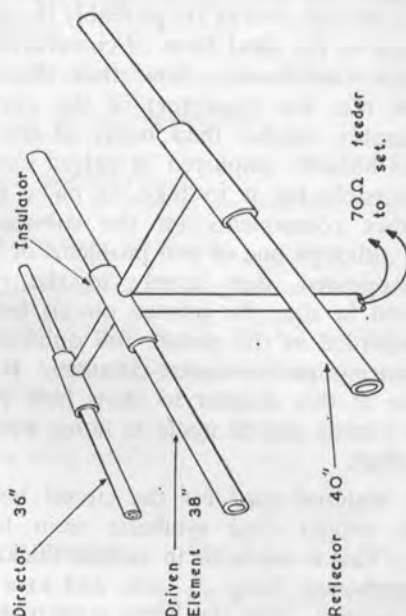

Fig. 18.6 144 Mc/s. amateur band aerial.
(6) AERIALS FOR THE 144 MC/S. AMATEUR BAND (see Fig. 18-6)